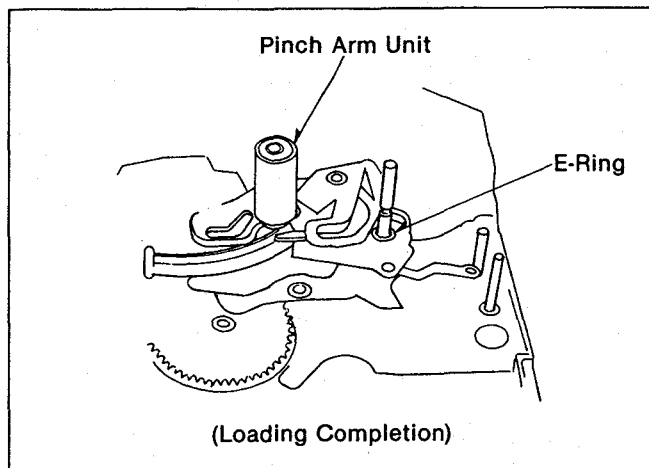

Fig. M20
- (3). Install the Pinch Arm Unit, and then insert the E-Ring as shown in Fig.M20,M21.